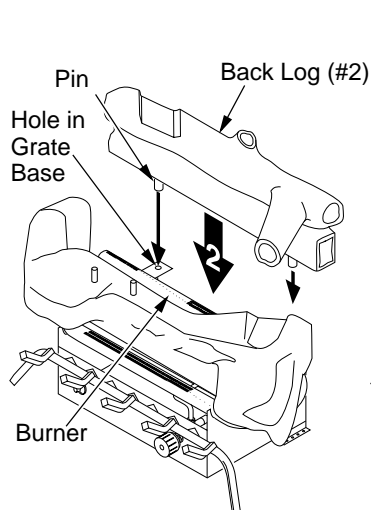

Figure 23 - Installing Back Log (#2)
2. Locate pins on the bottom of back log (#2). Slide these pins into the holes in the grate base behind the burner (see Figure 23).